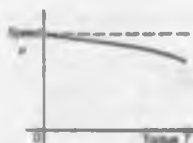

Figure 22.19
- (iii) Since torque is proportional to armature current, (see (i) above), the theoretical speed/torque characteristic is as shown in Fig. 22.19